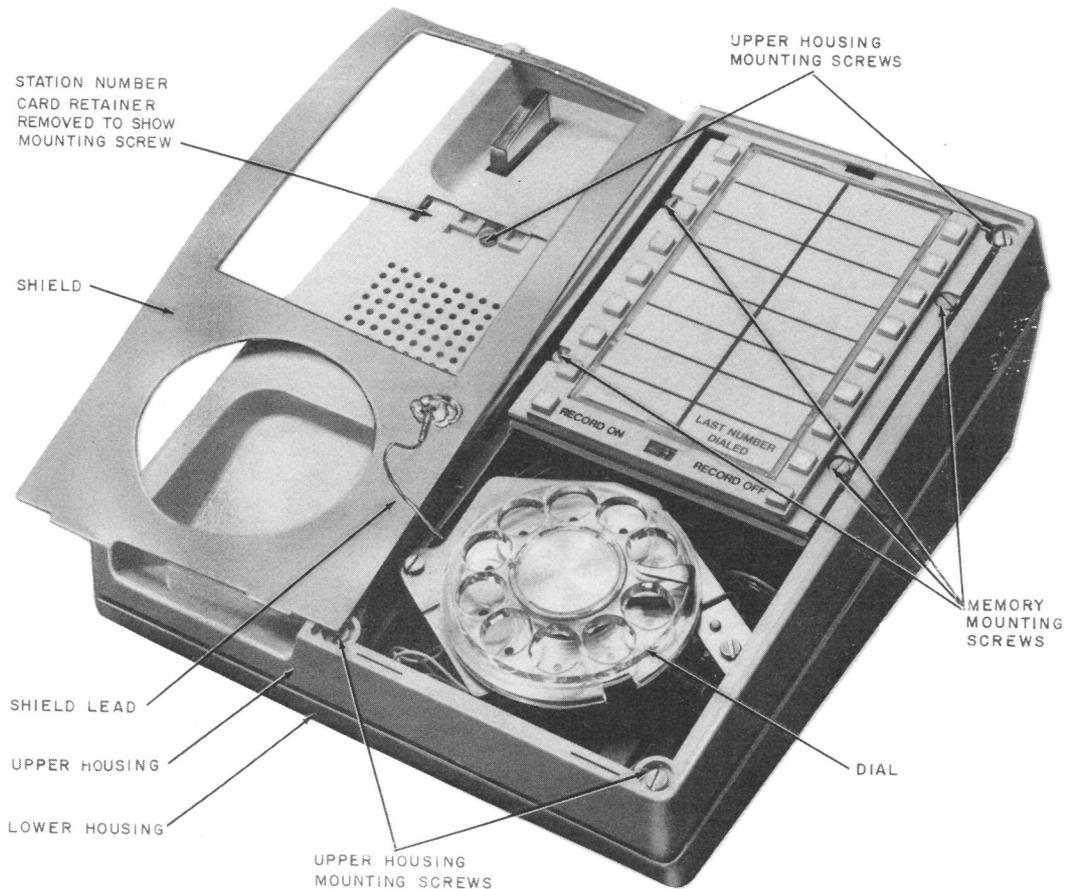

Fig. 4—960A01M (MD) Telephone Set With Handset and Faceplate Removed, and Shield Laid Aside
- (4) Insert the three leads from the switch assembly between the circuit board and the chassis under the memory.
- (5) Replace the lower housing and place the set upright.
- (6) Remove faceplate (paragraph 3.15).
- (7) Disengage the four captive memory mounting screws (Fig. 4).
- **Shield** is underneath faceplate and is positioned over the dial and Memory (Fig. 4).
- **Rotary Dial** is fastened by two screws and located on the top side at right-front corner of the chassis (Fig. 4).
- **Memory** is fastened by four screws and located just to the rear of the dial on the top right side of the chassis (Fig. 4).
- **Upper Housing** is fastened by four screws to the top side of the chassis (Fig. 4).
- (1) Unplug the modular handset cord at the telephone set end and remove handset.
- (2) Remove the faceplate (paragraph 3.15) and place the shield aside (Fig. 4).
- (3) Remove the station number card retainer and station number card.
- (4) Disengage the four captive upper housing screws (Fig. 4).
- (5) Remove the upper housing by slipping the shield through the faceplate cutout.
- (6) To replace the upper housing, reverse the procedure.